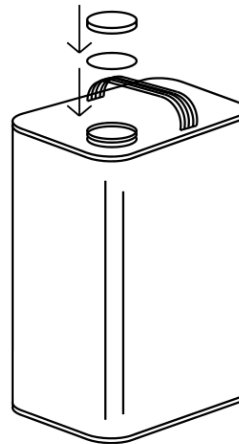

Figure 3
5. Place one inner seal over the opening of each can. Seal cans by threading caps onto the opening with 23 in-lbs of torque. (See Figure 3)